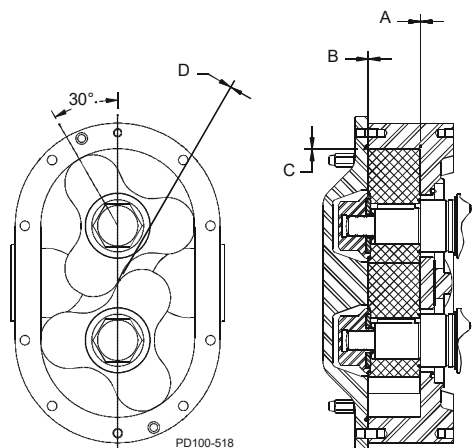

Figure 73 - Clearance Measurements
1. Measure the rotor backface clearance (Figure 73, item A) through the port or from the front. For optimum pump operation, the backface clearance for both rotors must be the same and must be ± 0.0005 " of the value found in Table 9, below.
2. Measure the rotor front face clearance (Figure 73, item B).